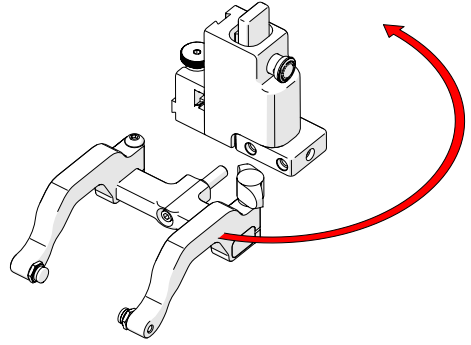

Fig. 56 - Orient to opposite side
2. Position the yoke and arms to the opposite side of the probe holder (Fig. 56).